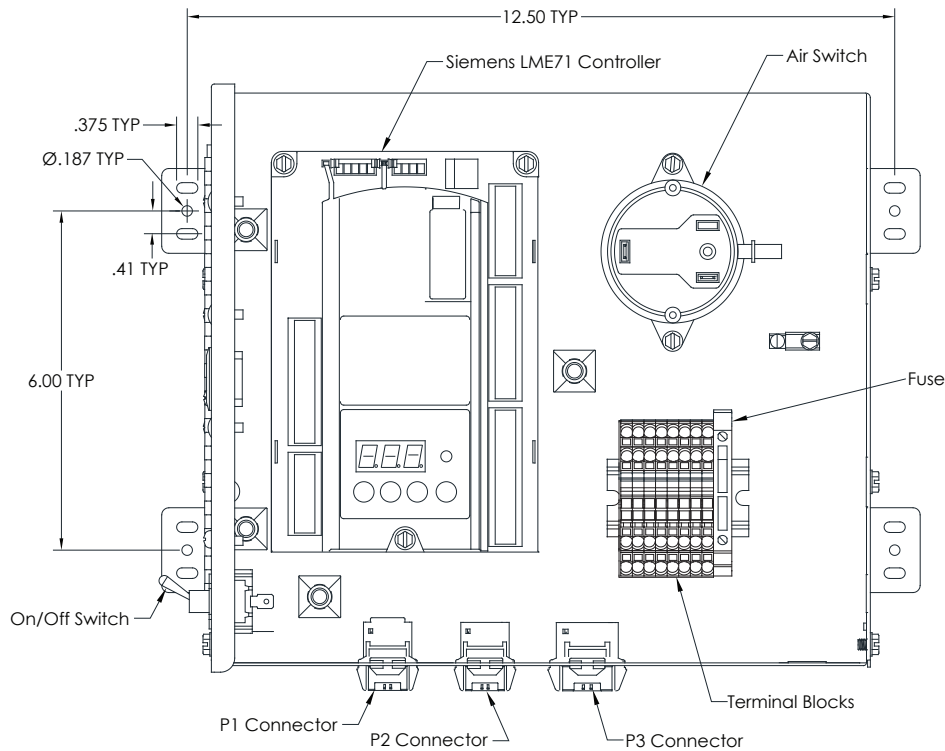

Figure 3. Control Box Component Locations
-The control box is to be remotely mounted. Refer to Figure 3 for mounting flange dimensions. The standard cables and tubing provided are 5 feet in length. If additional length is needed to mount the control box further from the burner, please contact Midco.
Most of the components have been pre-wired. There are a few things that the installer has to wire to integrate the burner into the system. Refer to Figure 3 for the component's location inside the control box. Refer to the appendix file supplied with the burner for information regarding your specific unit.